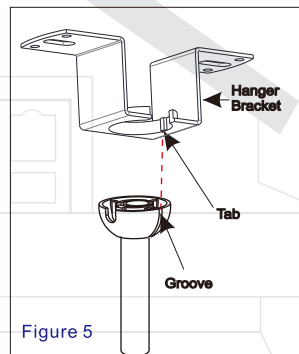

Figure 5
5. Carefully lift the fan, and set the downrod / hanger ball assembly on the hanger bracket attached to the ceiling joist. Be sure the groove in the ball is properly aligned with the tab on the hanger bracket. (Figure 5)